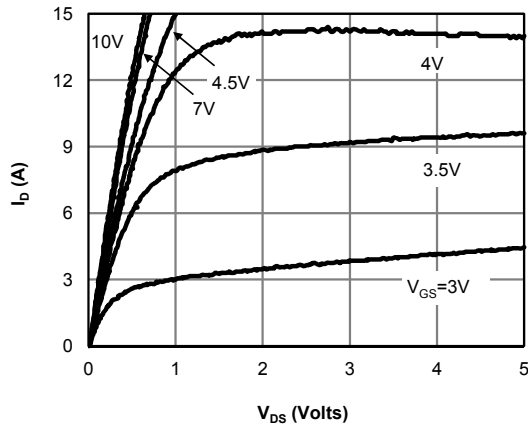

Figure 1: On-Region Characteristics (Note E)
E. The static characteristics in Figures 1 to 6 are obtained using $<300\mu\text{s}$ pulses, duty cycle 0.5% max.